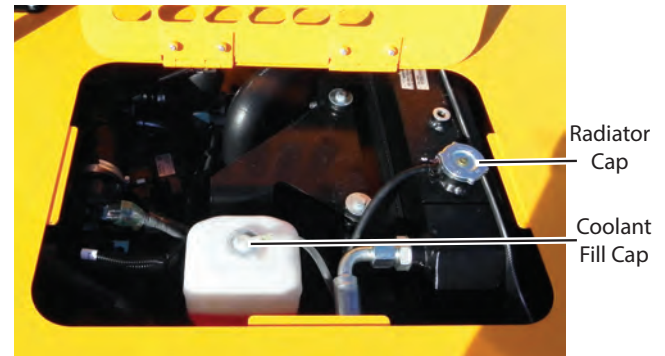

Figure 5-45. Radiator and Coolant Fluid Caps
2. Carefully remove the radiator surge tank cap. (**Figure 5-45**)